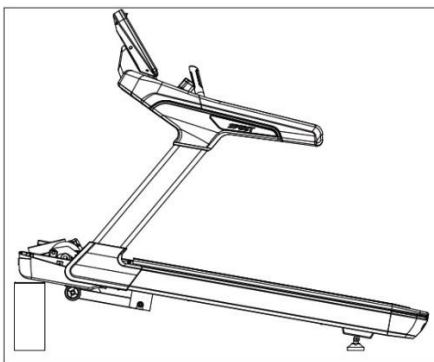
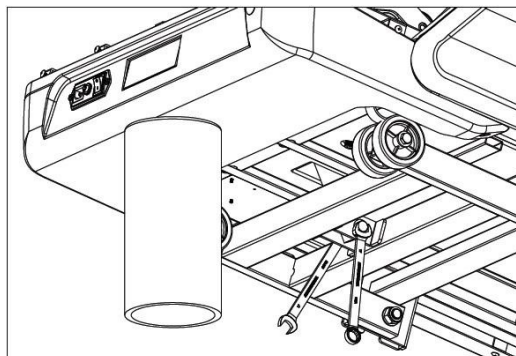
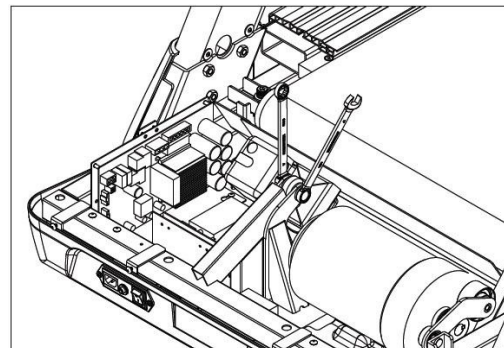

Figure 4.7.1
Figure 4.7.2
Figure 4.7.3
6) As shown in Figure 4.7.1, Figure 4.7.2, Figure 4.7.3, use e.g. a paper tube to support the device on the front side. Use a wrench to remove the incline motor, which is fixed on main frame.